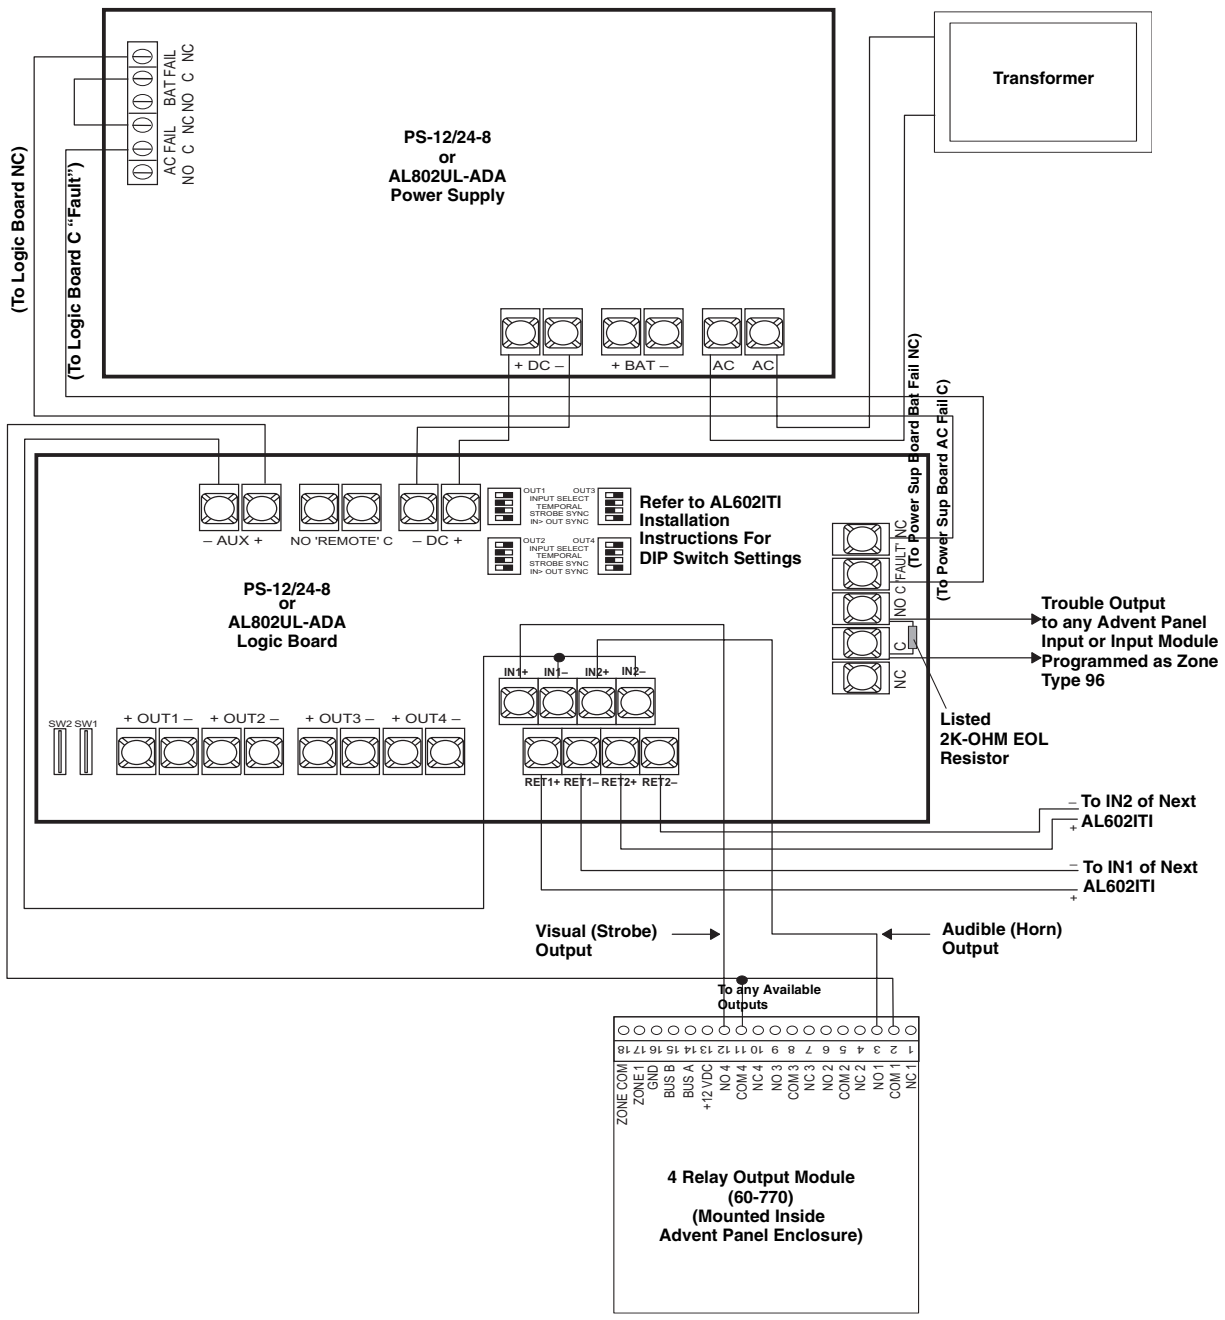

Figure C5. Wiring AL602ITI Power Supply
1. Wire the “AC Fail” and “Battery Fail” outputs to the “Fault” input in the AL602ITI as shown in Figure C5.
2. Wire this output relay to input 2 on the AL602ITI as shown in Figure C5.
2. Wire this output relay to input 1 on the AL602ITI as shown in Figure C5.
If additional power or outputs are required, up to 3 additional AL602ITI NAC Power Supplies can be added by connecting the “RET” terminals of the first AL602ITI to the corresponding “IN” terminals of the next AL602ITI and so on. See Figure C5 for details.